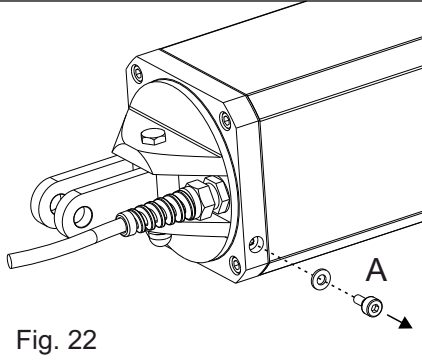
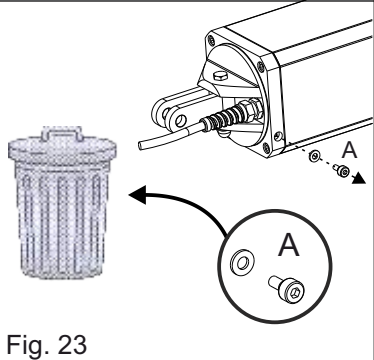

Fig. 22
Fig. 23
- Unscrew the «A» screw as shown in Fig. 22 and throw it away (Fig. 23)